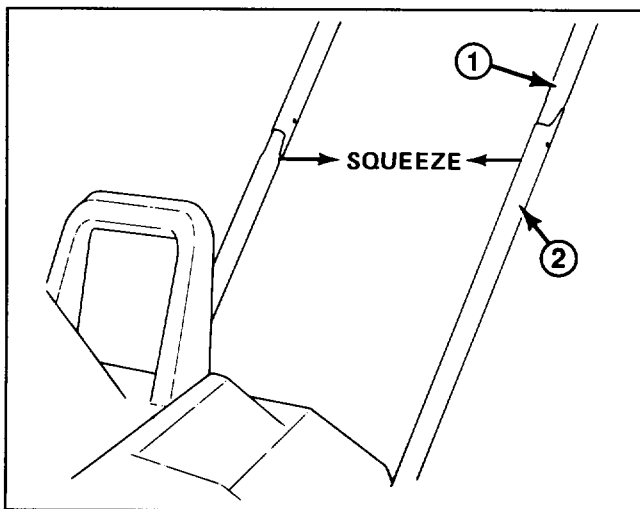

Figure 1
2. Carefully insert right side of upper tubing over end of lower right side tubing (Fig. 1).
3. Carefully insert left side of upper tubing into end of lower left side tubing (Fig. 1).
4. Squeeze upper tubing together above joining point. Wiggle upper tubing down until mounting holes in upper and lower tubing are aligned (Fig. 1).